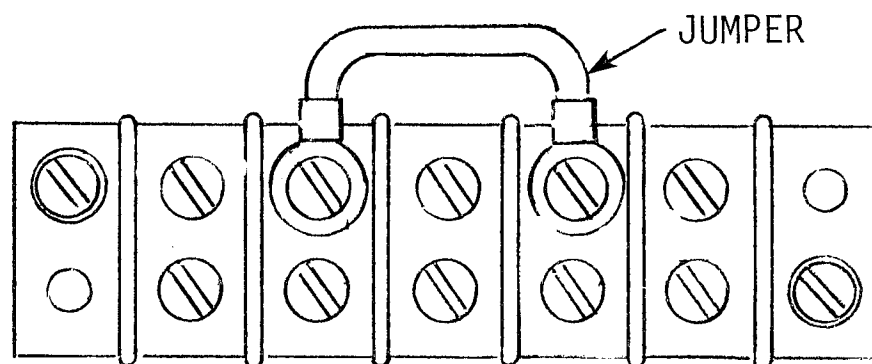

Figure 2-1. Voltage Select Terminal Board TB2
3. Check terminal board TB2 (Figure 2-1) on the power supply assembly for a jumper wire between the terminal marked 0B/NTL and the terminal corresponding to the voltage available.